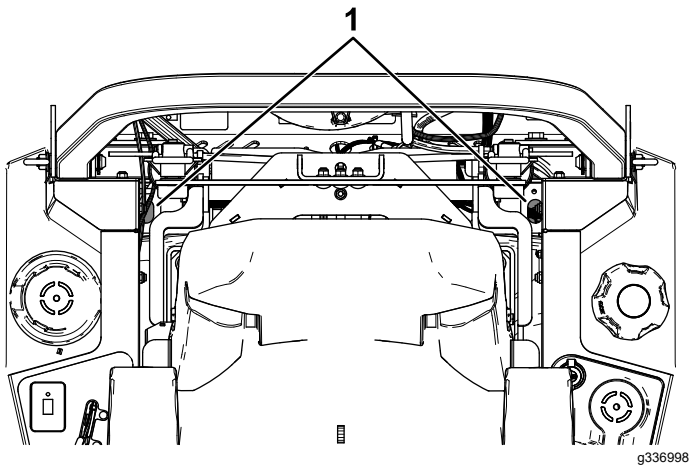

Figure 82
- **For ZT 4400 Hydros**, use an extension and 7/16-inch socket, access the vent plug from the top of the machine through the holes near the roll-bar mounts (Figure 82).